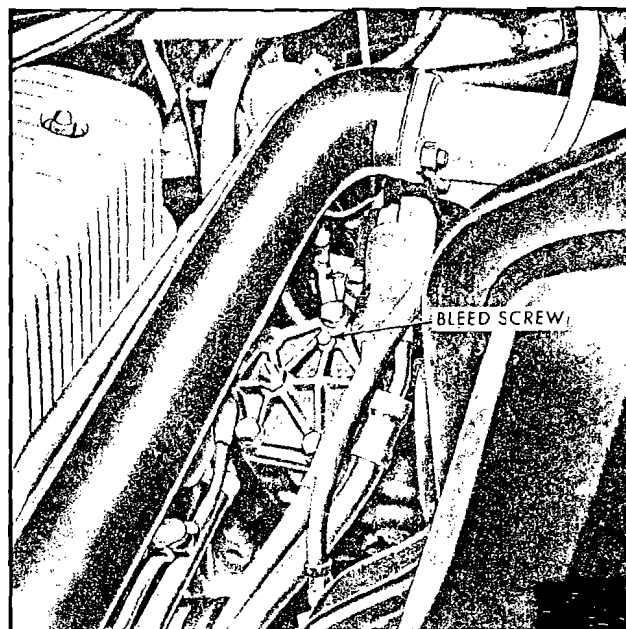

Fig. 8 —Steering Gear Bleed Screw on Side Cover
2. Loosen bleed screw in side cover. See figure 8.